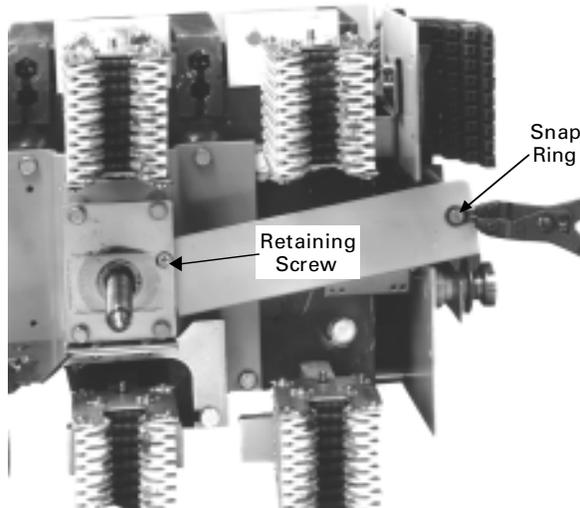

Figure 12. Locations of the retaining screw and snap ring on the chain guard.
12. Remove the retaining screw and snap ring (using an appropriate snap ring pliers) that hold the chain guard in place on the rear of the breaker, as shown in Figure 12, then remove the guard.
10. Remove the retaining screw and snap ring (using an appropriate snap ring pliers) that hold the chain guard in place on the rear of the breaker, as shown in Figure 12, then remove the guard. Be careful not to lose the white nylon interlock plunger that may fall out of the back of the breaker, as it must be reinstalled when the breaker is reassembled.